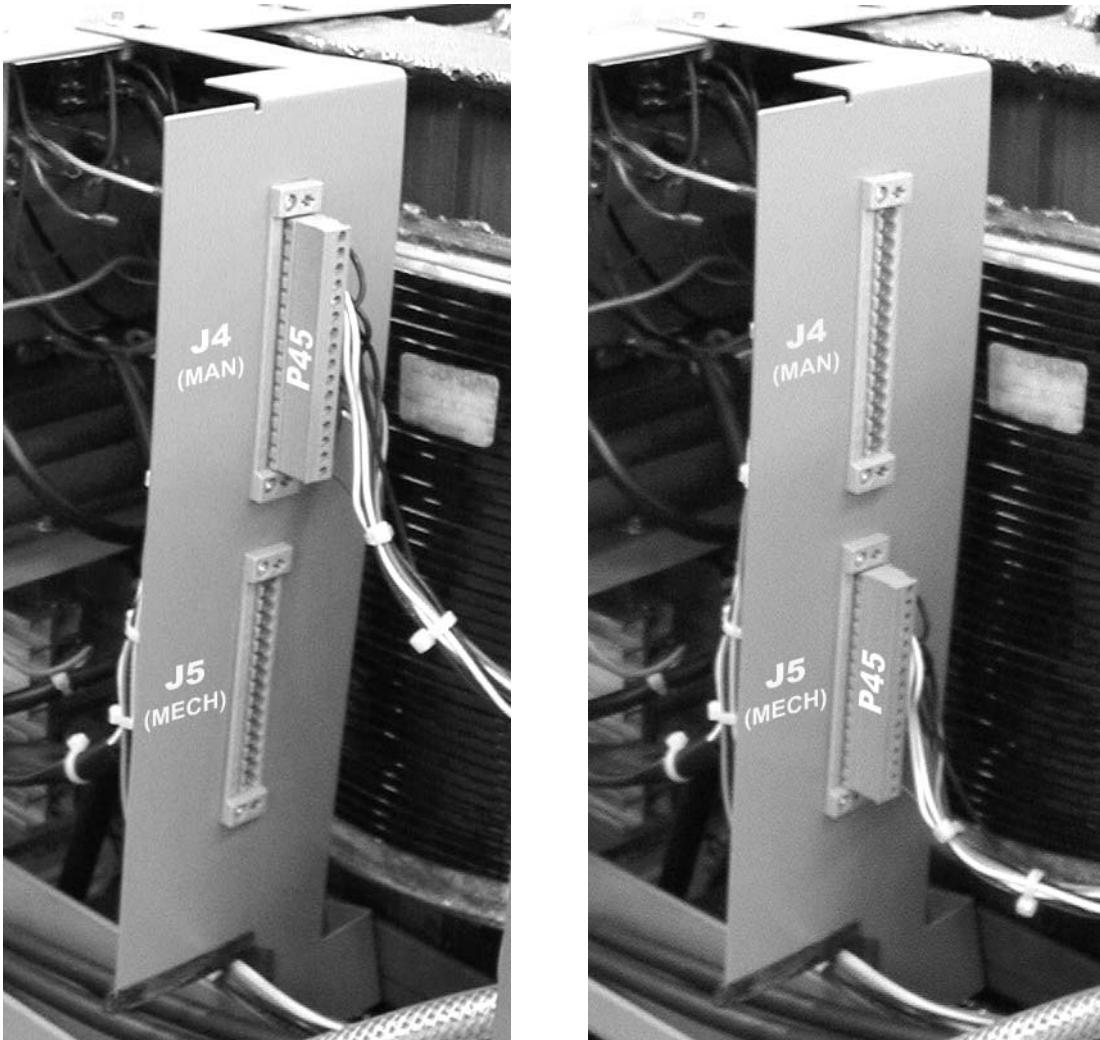

Fig 8 Manual vs. Mechanized Operation
- b. If a PT-26 In-line Torch is being used in a mechanized installation with a CNC device, see Fig. 9 for Remote Control Receptacle I/O signal pin configuration and Fig. 8 for Control Mode Selection instructions.